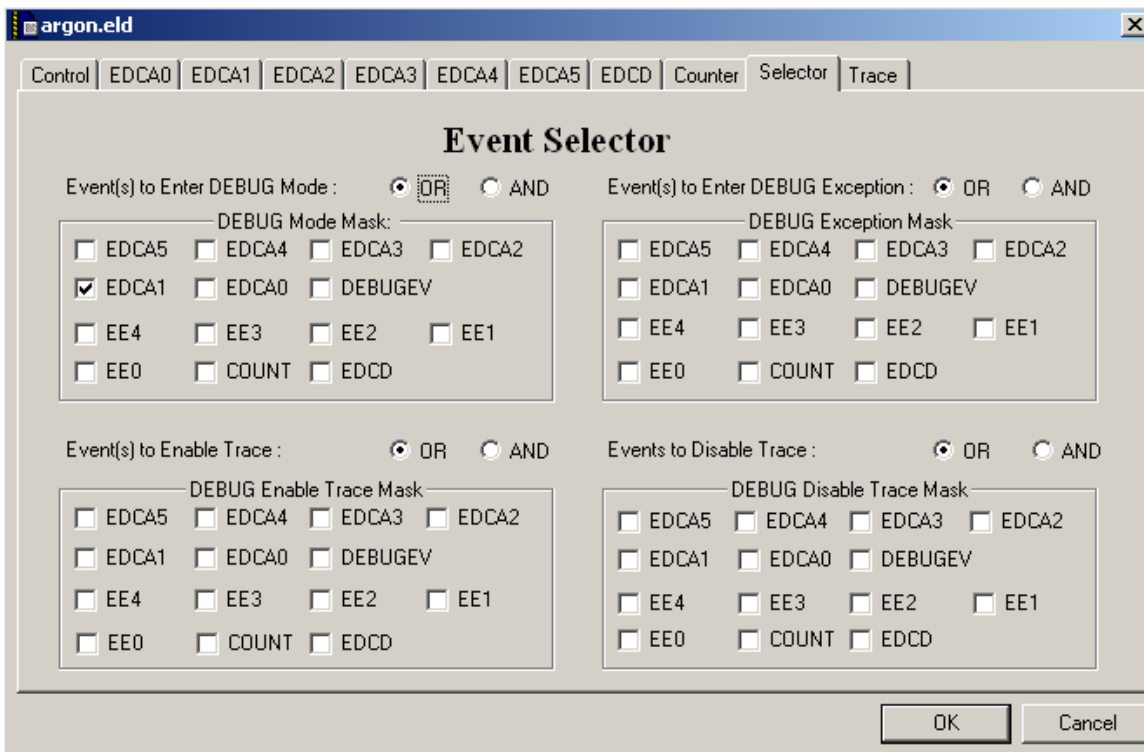

Figure 14: EOnCE Event Selector
- c. Setup EOnCE event to halt StarCore processor on occurrence (Figure 14: EOnCE Event Selector)